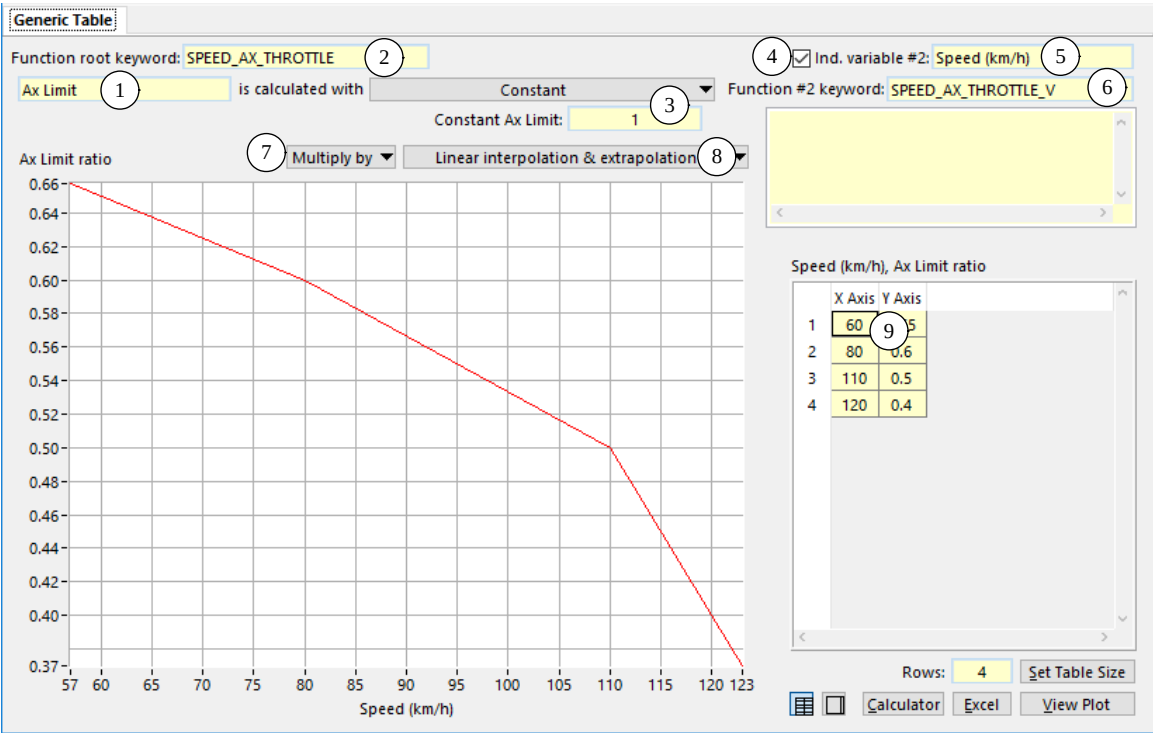

Figure 41. Defining an acceleration limit as a function of speed and station.
If the constant is chosen, a yellow field appears (e.g., (17)). If the function is chosen, a data link appears (e.g., (16)) to the **Generic Table** library. An example function dataset is described later (Figure 41, page 54).
If one or more of the acceleration limits (16 - 19) are specified as functions of speed, then links are made to the **Generic Table** library. This screen (Figure 41) can be used to represent almost any Configurable Function used within a VS Math Model. In the figure, it is used to represent the throttle acceleration limit in SC.
1.  $f$  is a function that uses a method you define on the screen (e.g., 2D linear interpolation is specified in Figure 41).
Data from the Generic Table screen (Figure 41) can be treated as a shaping function and transformed, typically by setting the scaling parameters in the Misc. yellow field on the **Control: Speed (Closed Loop) Using Path Preview** screen (25, Figure 38, page 50). For example, set `VX_SCALE_SPEED_AX_THROTTLE = 1.2` to multiply the range of speeds covered in the table by 1.2, to apply an existing acceleration limit for a vehicle with a higher performance engine.
In this example, the maximum speed is set to 150 km/h, and aggressive acceleration limits were set: 0.7g lateral, 1.0g braking, and speed dependent for accelerating (based on engine capability, using the example shown in Figure 41, page 54). Road geometry is also considered.